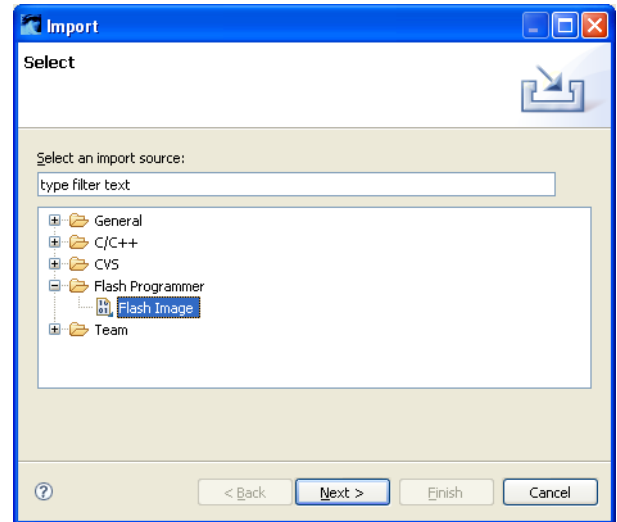

Figure 6-4 Select flash image to import
1. Select **Import...** from the **File** menu and then select **Flash Programmer** → **Flash Image**, see Figure 6-4. Click on **Next**.